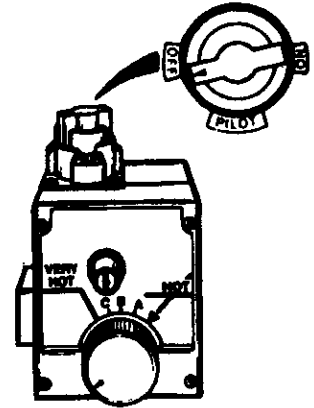
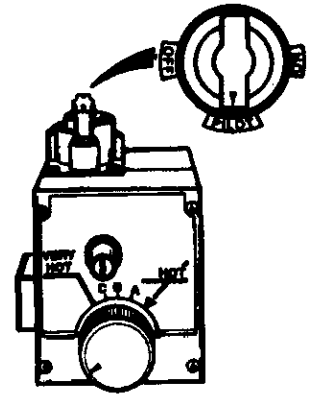
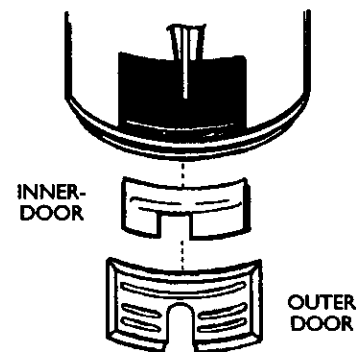

Figure 5
Figure 6
Figure 8
4. Turn gas control knob clockwise (↻) to "OFF" position. Knob cannot be turned from "PILOT" to "OFF" unless knob is depressed slightly. **DO NOT FORCE.** (Figure 5, page 19)
5. Wait five (5) minutes to clear out any gas. If you then smell gas, STOP! Follow "B" in the safety information above on this label. If you don't smell gas, go to the next step.
6. Remove (or open) inner door located below the gas control unit. (Figure 8, page 19)
8. If you don't smell gas, turn knob on gas control counter clockwise (↺) to "PILOT" position. (Figure 6, page 19)
9. Push in control knob all the way and hold down. Immediately light the pilot with a match. Continue to hold control knob in for about one (1) minute after the pilot is lit. Release knob and it will pop back up. Pilot should remain lit. If it goes out, repeat steps 3 through 8.
- If the pilot will not stay lit after several tries, depress and turn the gas control knob clockwise (↻) to "OFF" and call your service technician or gas supplier. (Figure 5, page 19)
10. Replace (or close) inner door. Replace outer door if door does not cover gas control on/off knob or temperature adjustment knob. (Figure 8, page 19)
2. Turn gas control knob clockwise (↻) to "OFF" position. Knob cannot be turned from "PILOT" to "OFF" unless knob is depressed slightly. **DO NOT FORCE.** (Figure 5)